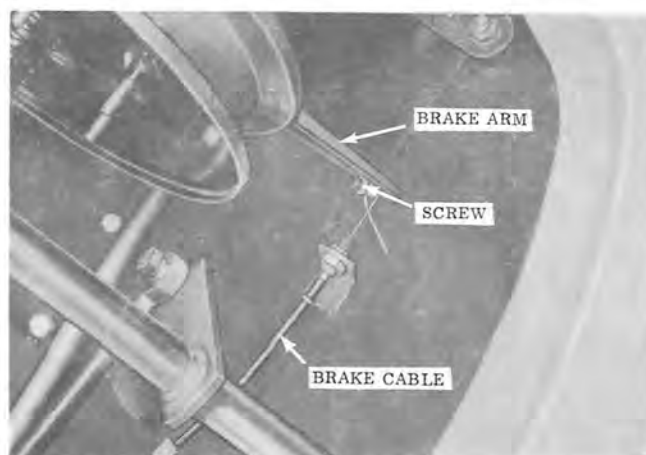

Figure 19
3. Remove brake cable from brake arm by removing the screw (See Figure 19).